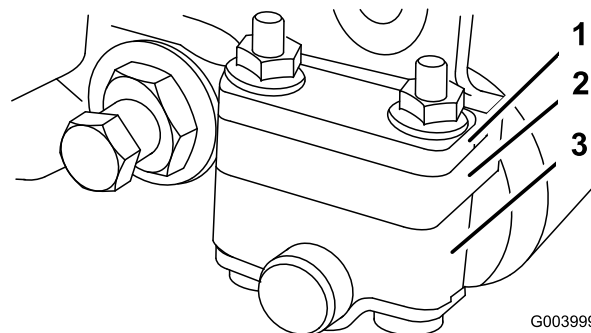
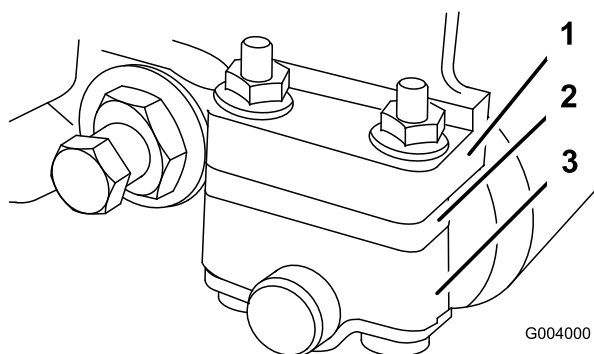

Figure 48
Figure 49
1. Adjust the rear roller brackets to the low or high position depending on desired height of cut range (Figure 48 and Figure 49).
- Position the spacer below the sideplate mounting flange when height of cut settings range from 1/8" to 1" (Figure 49).